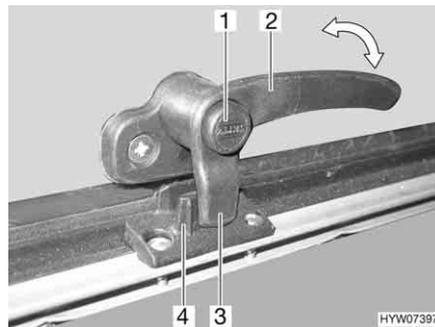
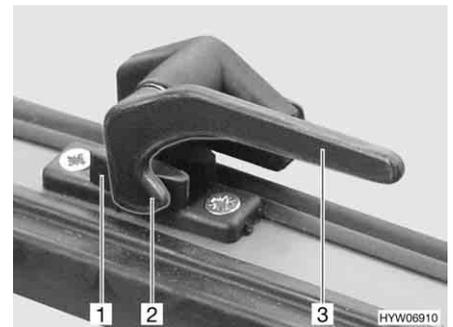

Fig. 101 Catch lever with safety knob in "closed" position
Fig. 102 Catch lever in "closed" position
- Press and hold the security button (Fig. 101,1), if present.
- Turn the catch lever (Fig. 101,2 or Fig. 102,3) a quarter turn towards the centre of the window.
- Turn the catch lever (Fig. 101,2 or Fig. 102,3) a quarter turn towards the window frame. The locking catch (Fig. 101,3 or Fig. 102,2) on the catch lever is entirely on the inner side of the window catch (Fig. 101,4 or Fig. 102,1).
- "Firmly closed" (Fig. 101 and Fig. 102)